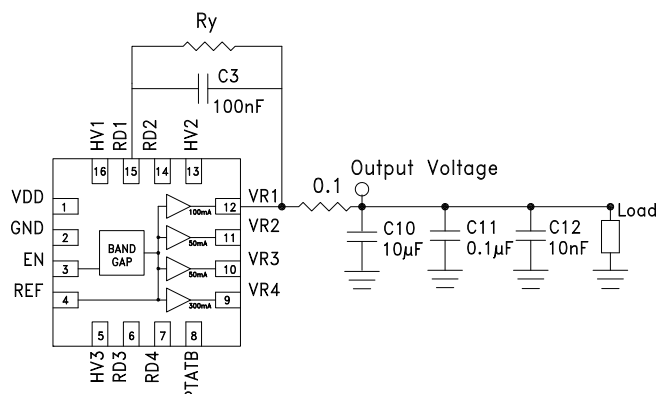

Figure 13. Recommended HMC1060LP3E configuration for supplying output voltage values less than default. [1]
The outputs of the HMC1060LP3E are configured to supply voltages less than the default values, down to 1.8 V minimum, by connecting a resistance (R_y in Figure 13) between pins VR_x and RD_x (where $x = 1, 2, 3, 4$). Figure 13 shows an example of configuring VR1 output. Other outputs are configured in exactly the same way (ie. R_y is added between VR2 & RD2, VR3 & RD3 and between VR4 & RD4).
- To set VR1 = VR2 = VR3 = 1.8 V in with PTAT Mode disabled, external resistance Ry = 21 kΩ shown in Figure 13 is required.